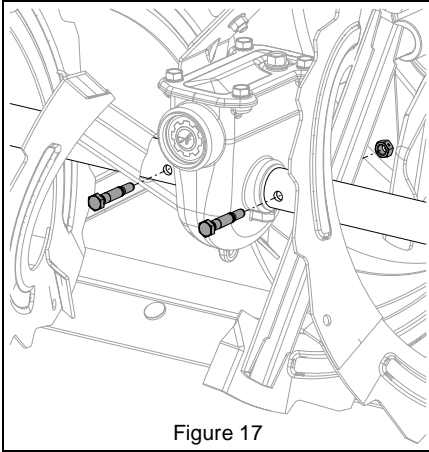

Figure 17
1. Remove shear bolt nuts and bolts. See Figure 17.
See Figure 17.